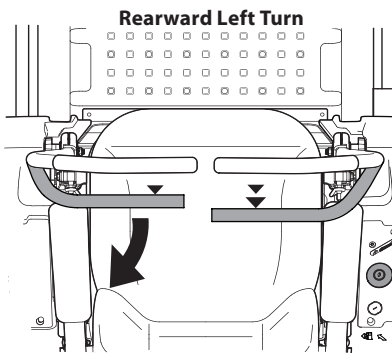

Figure 3-9
1. To turn to the left while traveling in reverse, move the left drive control lever forward of the right lever. See Figure 3-9.